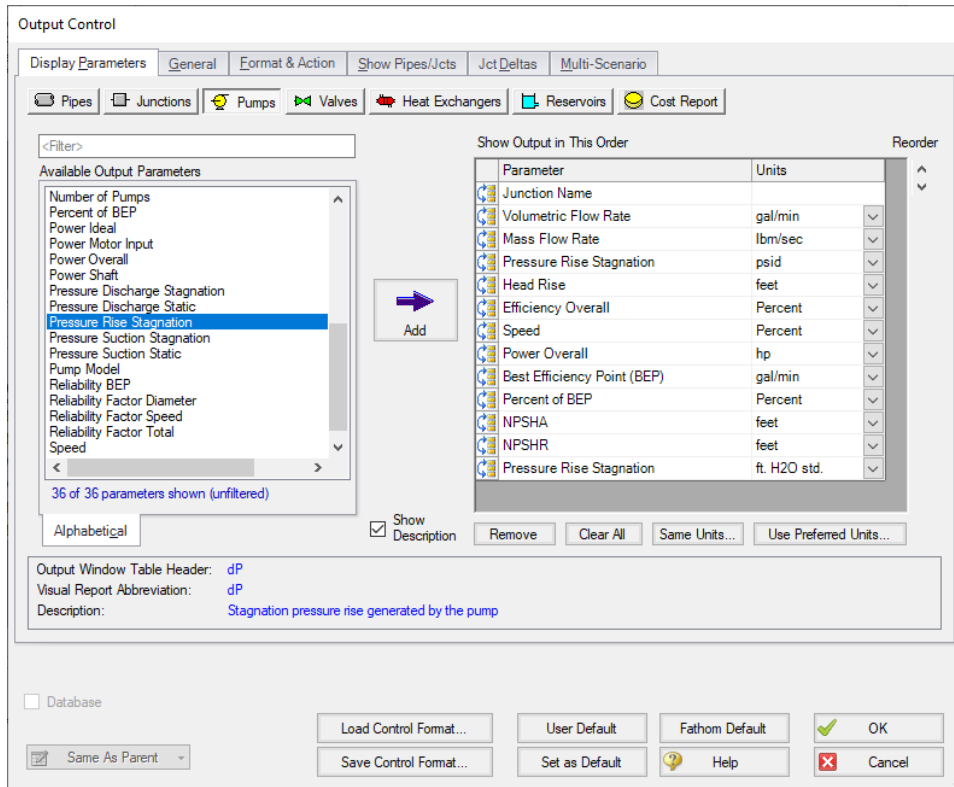

Figure 7: The Output Control window Pumps report
5. Choose **Pressure Rise Stagnation** and add it. Then change its units to ft. H2O std.. This is the head rise in terms of water head. See Figure 7.